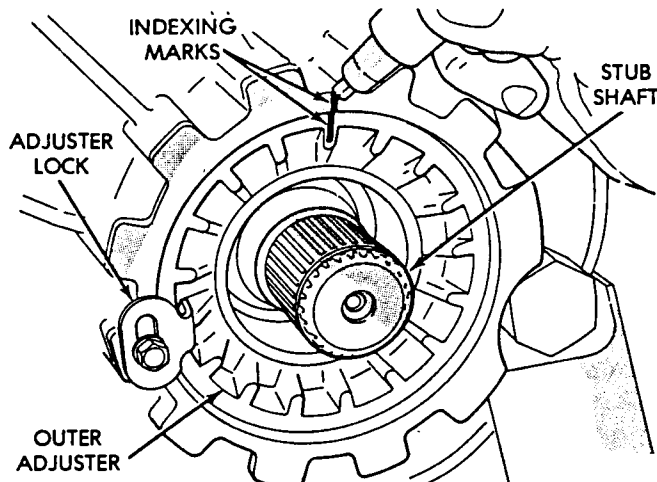

Fig. 3 Indexing Outer Adjuster
(4) Index outer adjuster (Fig. 3). Remove lock bracket and back out adjuster exactly one revolution. Then remove differential cover.